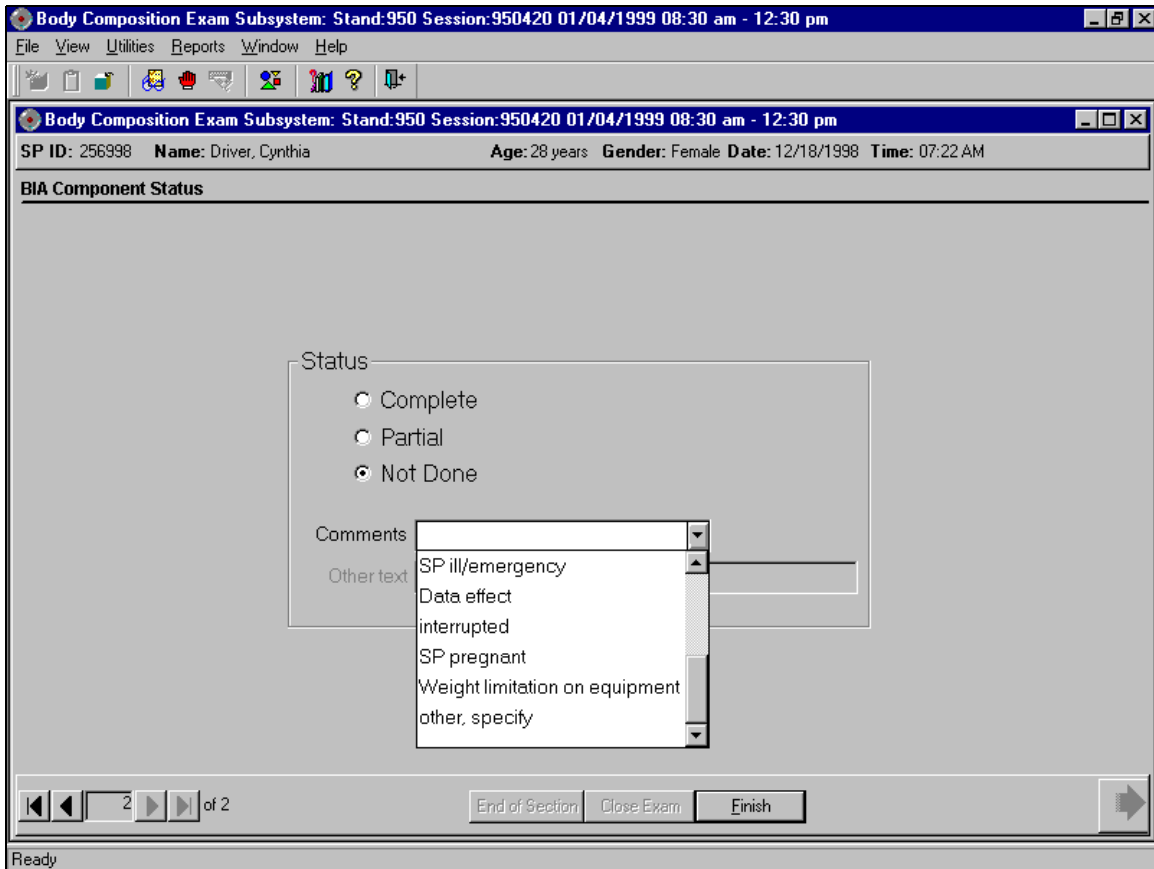

Figure 4-36. BIA component status
- Additional comments from the list are shown in Figure 4-36: